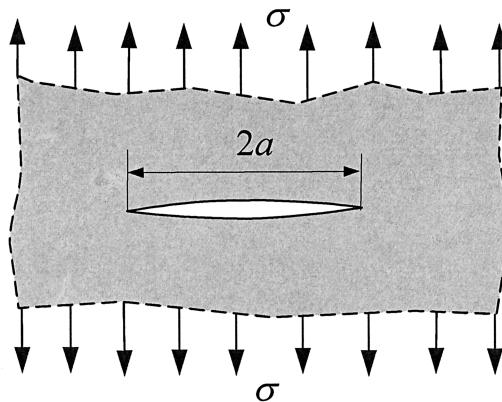

Figure 3
- 2(a) A Centre-Crack in an infinite width plate has a tensile stress normal to the crack indicated by  $\sigma$ , as shown in Figure 3. The crack length is  $2a$ , but the half crack length,  $a$ , will be used for Fracture and Fatigue calculations.